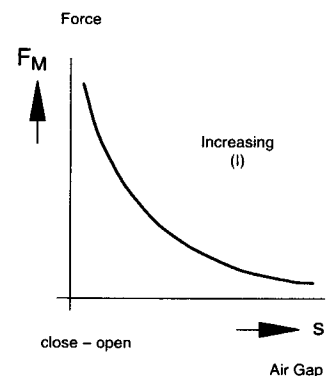

Fig. 2
- Increasing force characteristic (Fig. 2)